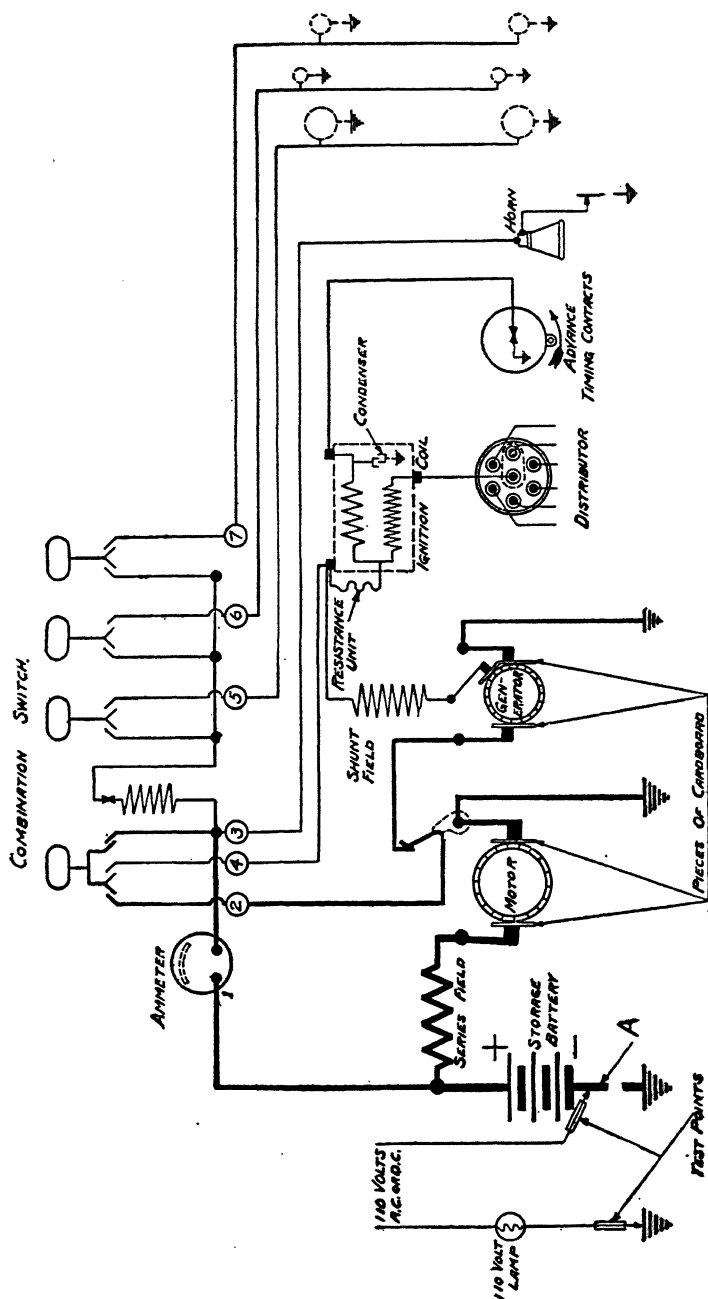

Fig. 21. Wiring Diagram Showing Method of Using Lamp-Testing Set for Locating Grounds
**Locating Grounds.** By referring to any of the wiring diagrams of the one-wire type, it will be noted that certain parts of the circuits are normally grounded, i.e., they are connected to the common return represented by the chassis of the car. For example, the negative battery terminal, one terminal of each lamp, one motor, one generator brush, one timer contact, one terminal of the horn push button, and one terminal of the condenser in the coil are grounded. Before testing the wiring for grounds, it will be necessary to remove these normal, or intentional, grounds. This is carried out, in the order in which they are mentioned, by disconnecting the negative battery lead and removing all the lamps, placing a piece of cardboard between each generator and each motor brush, including the third brush of the former and the commutator against which it ordinarily bears, disconnecting the leads from the horn button and from the distributor, and raising the base of the ignition coil so that it is insulated from the top cover of the generator motor. The system will then be in the condition shown in Fig. 21.